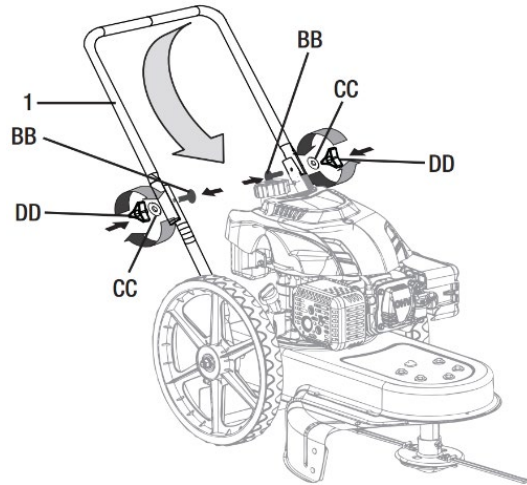

Fig. 1
1. Lift the lower part of the handle (1) and fix it using M8 bolts (BB), washers (CC) and wing nuts (DD) as shown in Fig.1.